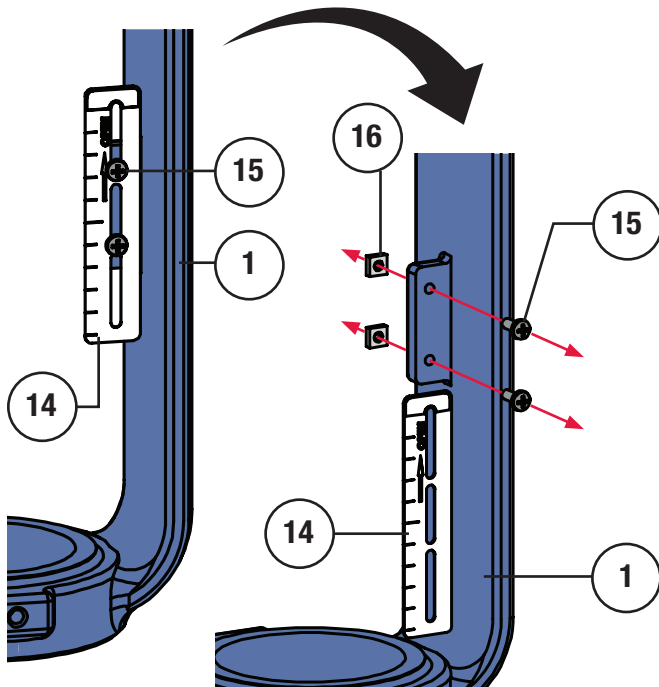

Figure 18 Travel Scale Removal
- 11 If necessary, remove the travel scale (Key 14) by removing the nuts (Key 16) and machine screws (Key 15). Refer to Figure 18.
- 1 Install the travel scale (Key 14) using the machine screws (Key 15) and nuts (Key 16). Do not completely tighten the screws and nuts, the travel scale will need to be adjusted after mounting. Refer to Figure 18.